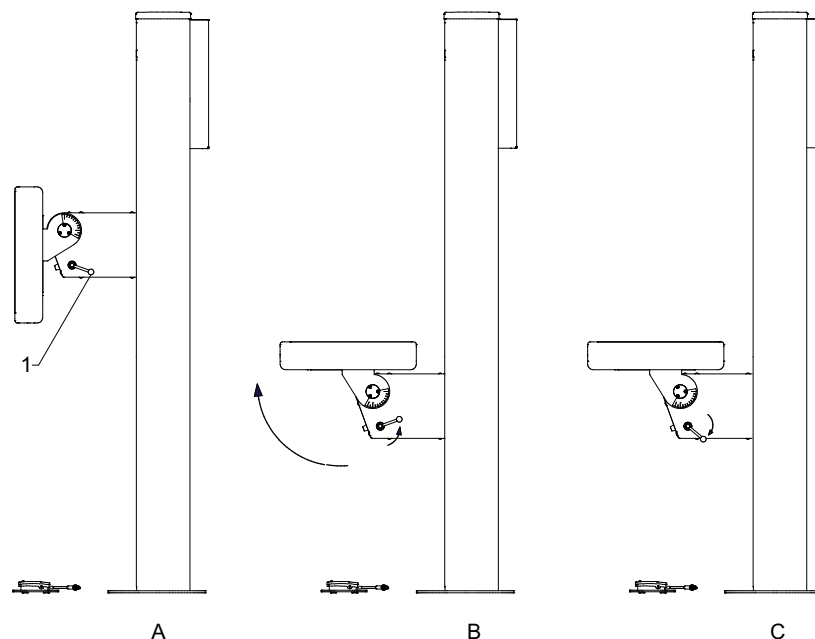

Fig. 4-41 Tilting detector holder
To position the handle (See pos.1 in **Fig. 4-41**, in its start position);